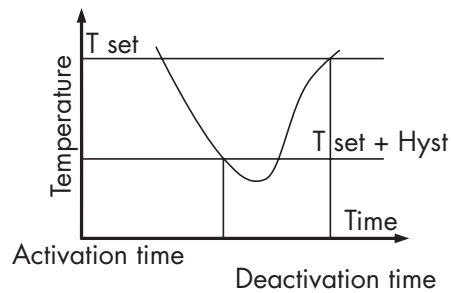

Figure 6 Hysteresis when heating
- Hyst. set: only turns off when measured temperature $\geq T_{set} + Hyst$, see **Figure 6**.